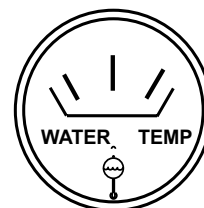

Figure 60. Coolant Temperature Gauge
17. The coolant temperature gauge (Figure 60) will indicate the coolant temperature. Under normal operating conditions the coolant temperature is between 165 and 215 degrees Fahrenheit.